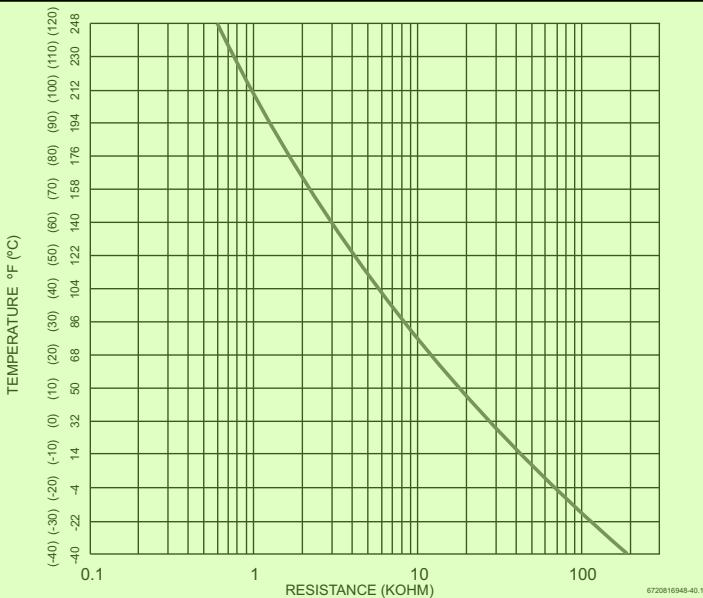

Fig. 69 Inlet, outlet and heat exchanger water temperature sensors characteristics 3
2) see temperature resistance charts in fig. 69 and 70.